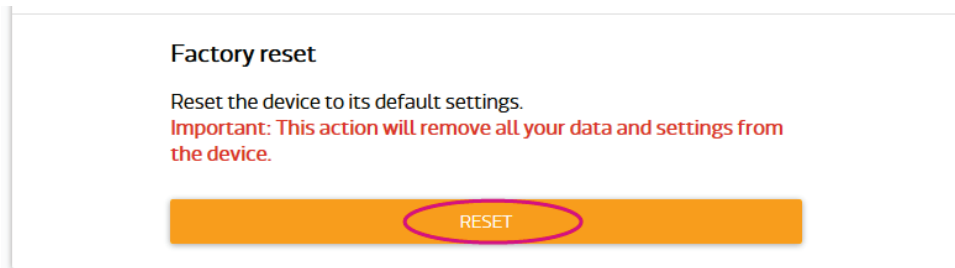

Figure 18 Factory Reset using LinkIt Smart 7688 Web UI
- 1) Sign in the Web UI 2.4.1 "Accessing Web UI" and click the Reset button under Factory Reset, as shown in Figure 18.